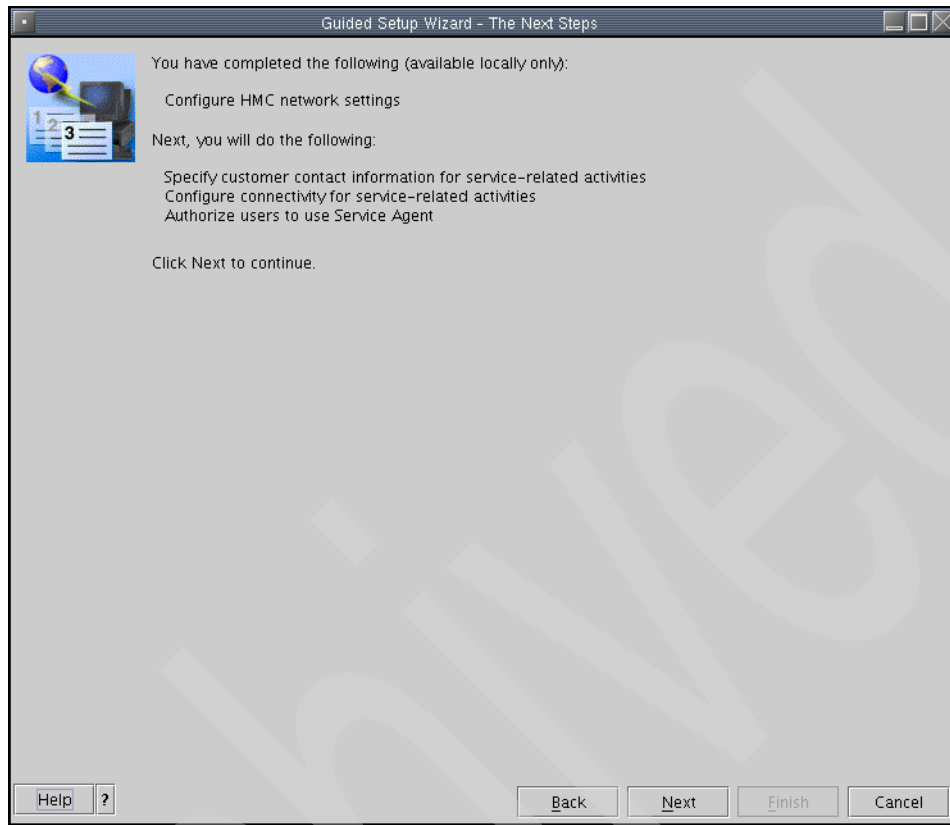

Figure 4-28 Guided Setup - End of network configuration
27. The Guided Setup - The Next Steps display is shown (Figure 4-28). This completes the network configuration section of the Guide Setup wizard. We now continue with the next part of the wizard, which enables the service and support functions within the HMC.